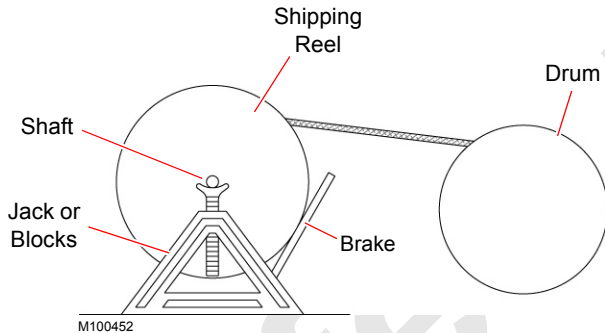

FIGURE 4-14
1. Mount the wire rope shipping reel on a shaft supported at both ends by jacks or blocks as shown in Figure 4-14.